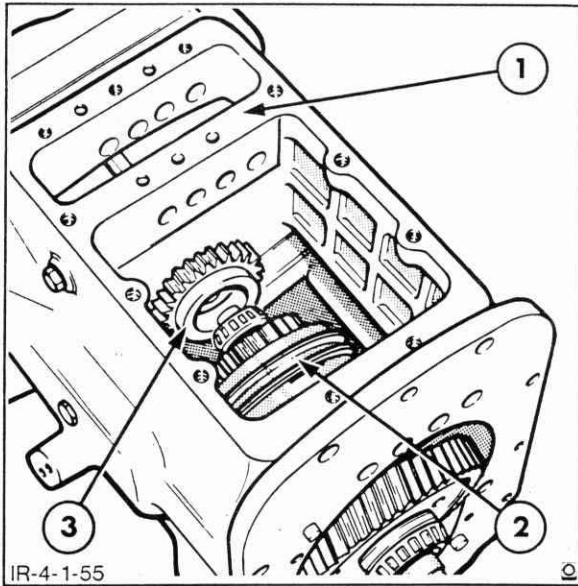

Figure 4-55
3. Install the rear output shaft into the transmission case and rest it across the transmission case inner wall, Figure 4-55.